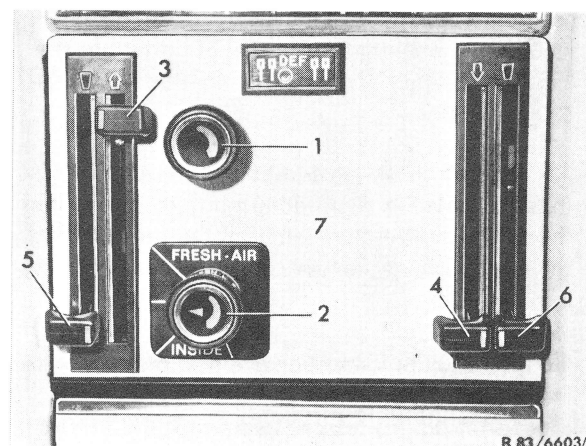

Figure 2
- 3 Close operating lever (3 and 4) for air in upward and downward direction. Set operating lever (5 and 6) for heating way down (to off) (Fig. 2).
- 6 Set temperature vacuum switch (2) to full cooling capacity (inside) and blower switch (1) to full blower speed (step 4) (Fig. 2).